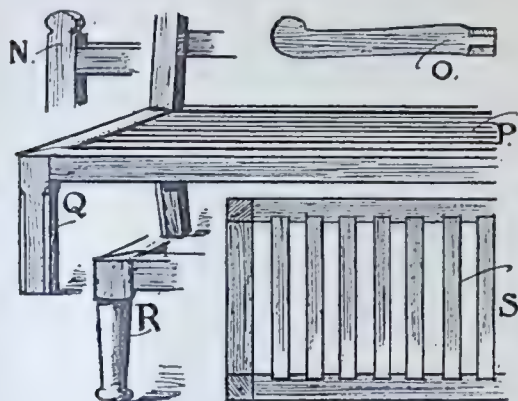

FIG. 4.—DETAILS OF BACK, ARMS AND LEGS, AND PLAN OF SEAT. (Shows also alternative Lath Seat at P.)
Arms (I) can be $1\frac{1}{2}$ in. thick, and when cut to shape should measure about 3 ins. wide net over all. A sketch plan of the arm is noted at O, Fig. 4, and shows the end cut with a tenon to enter right through back leg and be wedged.
If preferred, these slats can be replaced by laths to be fitted in the manner indicated at P, Fig. 4. These laths can be 2 ins. wide by $\frac{1}{2}$ in. thick, and in fitting it will be advisable to include a stretcher tenoned into front and back seat rails B to support them in the centre.
The two sketches at Fig. 5, by way of alternative suggestions for the back of seat, would work out well in painted finish. The upper one (T) has the uprights scrolled at top (or they could be finished as at N, Fig. 4), and the top rail is also curved with a gouged shaping cut into the under edge by